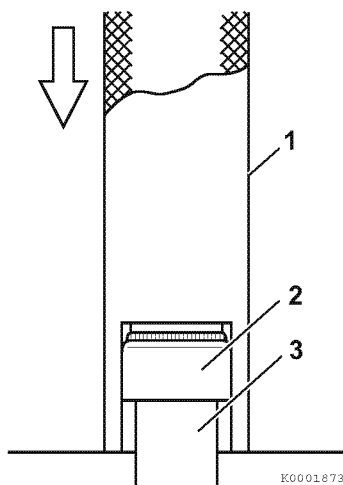

Figure 6-19
1. Oil the lip of the valve stem seal (2, **Figure 6-19**). Using a valve stem seal installation tool (1, **Figure 6-19**), install a new valve stem seal on each of the valve guides (3, **Figure 6-19**).